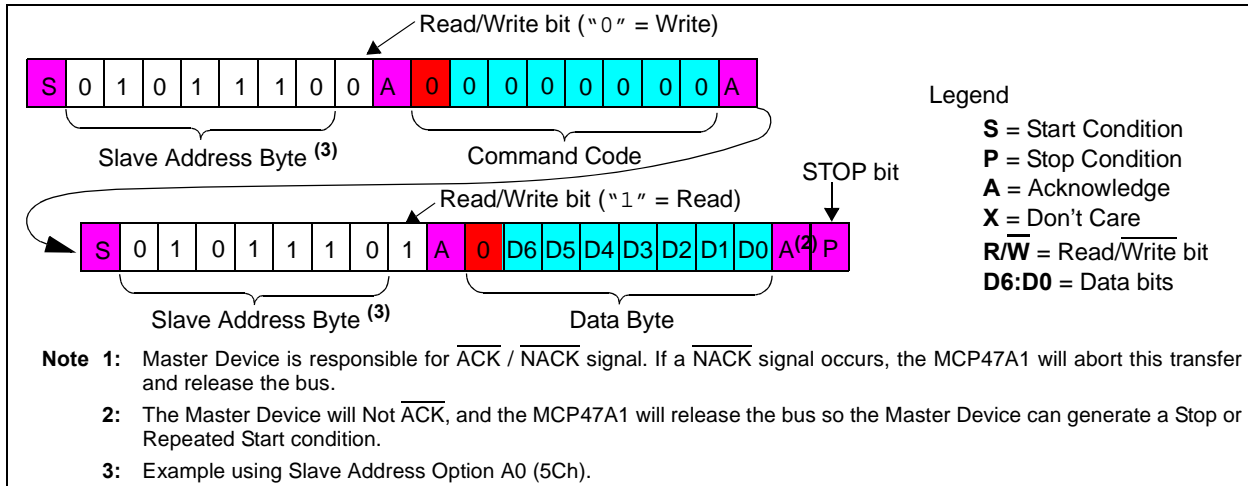

FIGURE 5-14: I²C Read Command Format.
The command is terminated once a Stop (P) or Restart (S) condition occurs. Refer to Figure 5-14 for the read command sequence. For a single read, the master sends a STOP or RESTART condition after the 1st data byte (and A bit) is sent from the slave.